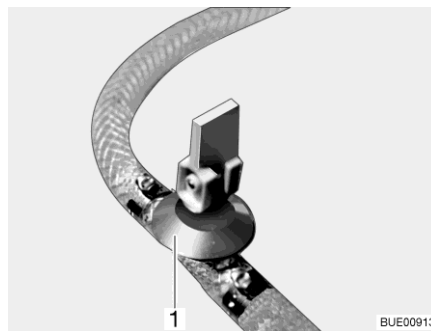

Fig. 221 Drain cock
- Close the drain cock(s). Position the rocking lever (Fig. 221,1) horizontally.
- Open drain cock(s) (Fig. 221). To do so, set the rocking lever (Fig. 221,1) in a vertical position. The boiler is drained to the outside.